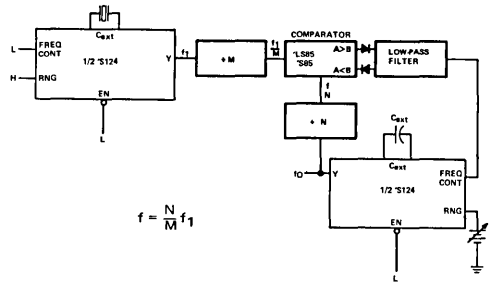

FIGURE 2—HIGH-FREQUENCY PHASE-LOCKED LOOP
- In another method, the comparison of  $\frac{f_1}{M}$  and  $\frac{f_1}{N}$  can be performed with either an SN54LS85/SN74LS85 or SN54S85/SN74S85. The resultant  $A > B$  and  $A < B$  outputs from the 'LS85 or 'S85 permit the detector to be simplified to a charge-pump circuit. See Figure 2.